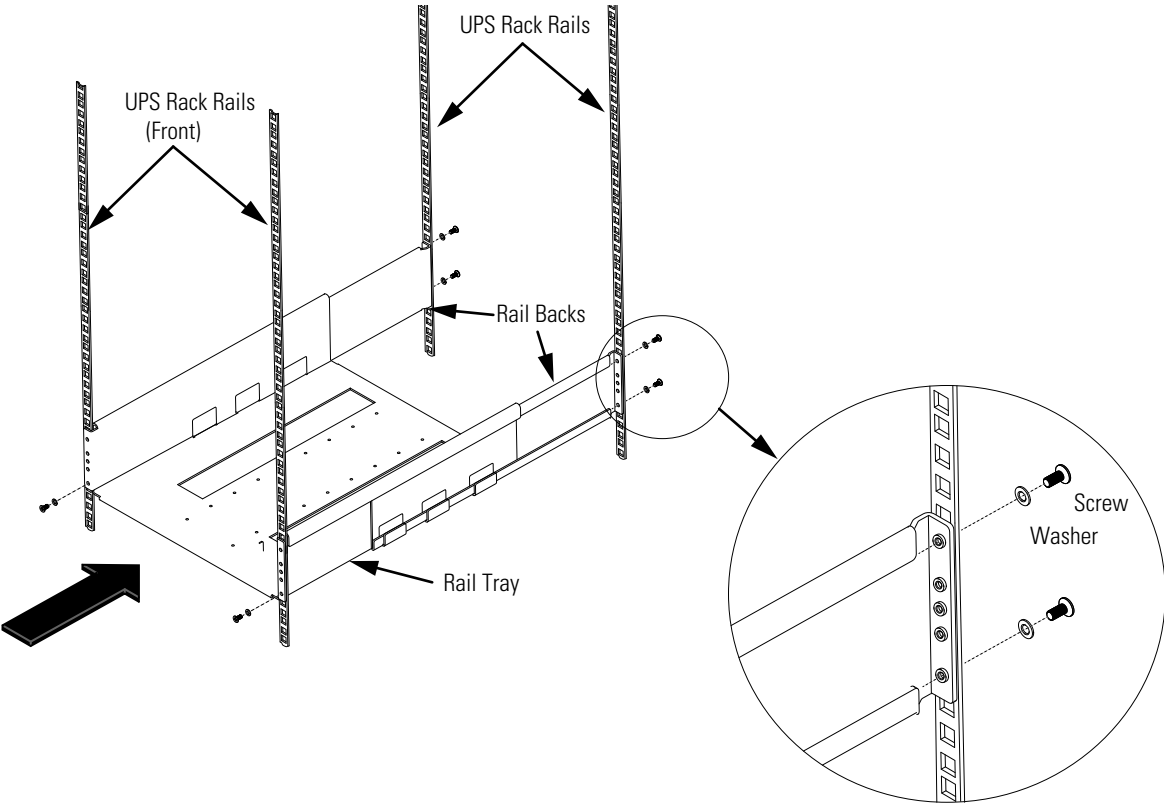

Figure 11. Rack Tray Location
2. Select the proper holes in the front vertical rack rails that position the rack tray at the bottom in the rack and extend the back rails to align with the rear holes. Secure with the screws and washers (see Figure 11).